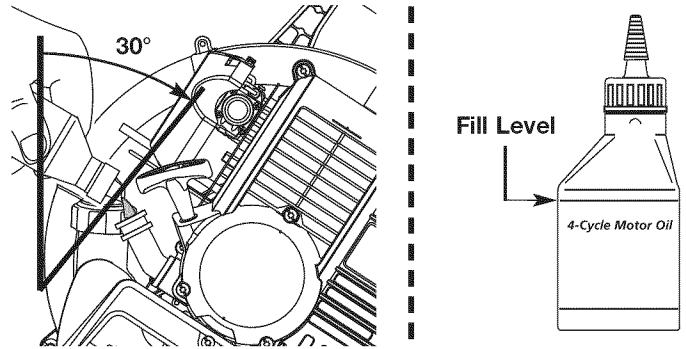

Fig. 23
4. Tilt the unit 30° to the side (Fig. 23).
NOTE: Use the bottle and spout saved from initial use to measure the correct amount of oil. The top of the label on the bottle measures approximately 3.04 ounces (90 ml) (Fig. 23). Check the level, See Checking the Oil Level. If the level is low, add a small amount of oil and recheck. Do not overfill (Fig. 23).